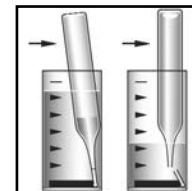

Figure 6
7. Place the CHEMet ampoule, tip first, into the sample cup. Snap the tip. The ampoule will fill leaving a bubble for mixing (fig. 6).